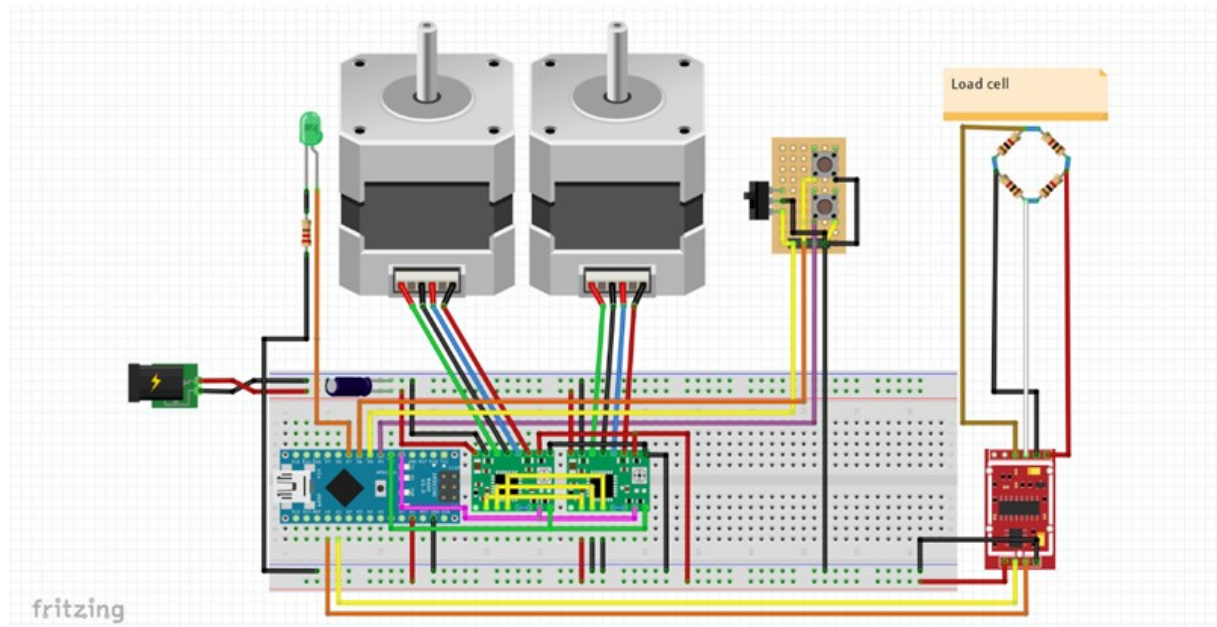

Fig. 3
- Connect the motor drivers to the Arduino following Fig. 3.